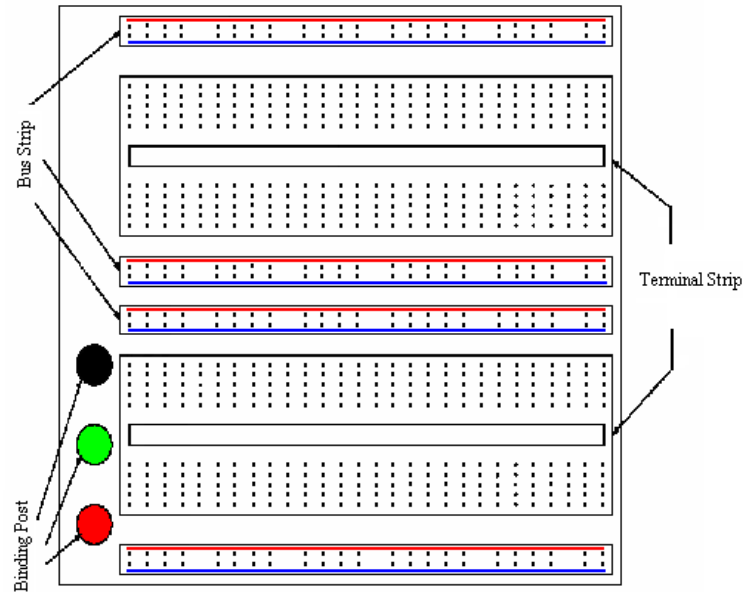

Figure 1: Typical Solder-less Breadboard
8. All equations, circuits, graphs, tables and diagrams must be labeled appropriately (e.g. Figure 1. Voltage Gain  $A_v$ ). Also, circuit diagrams with critical points must be appropriately labeled.
Examine the breadboard in your kit. This board will be used throughout the semester. The breadboard has two terminal strips, four bus strips, and three binding posts as shown in Figure 1. Each bus strip has two rows of contacts. Each row is a common point, or node. Bus strips must be used as power and ground.